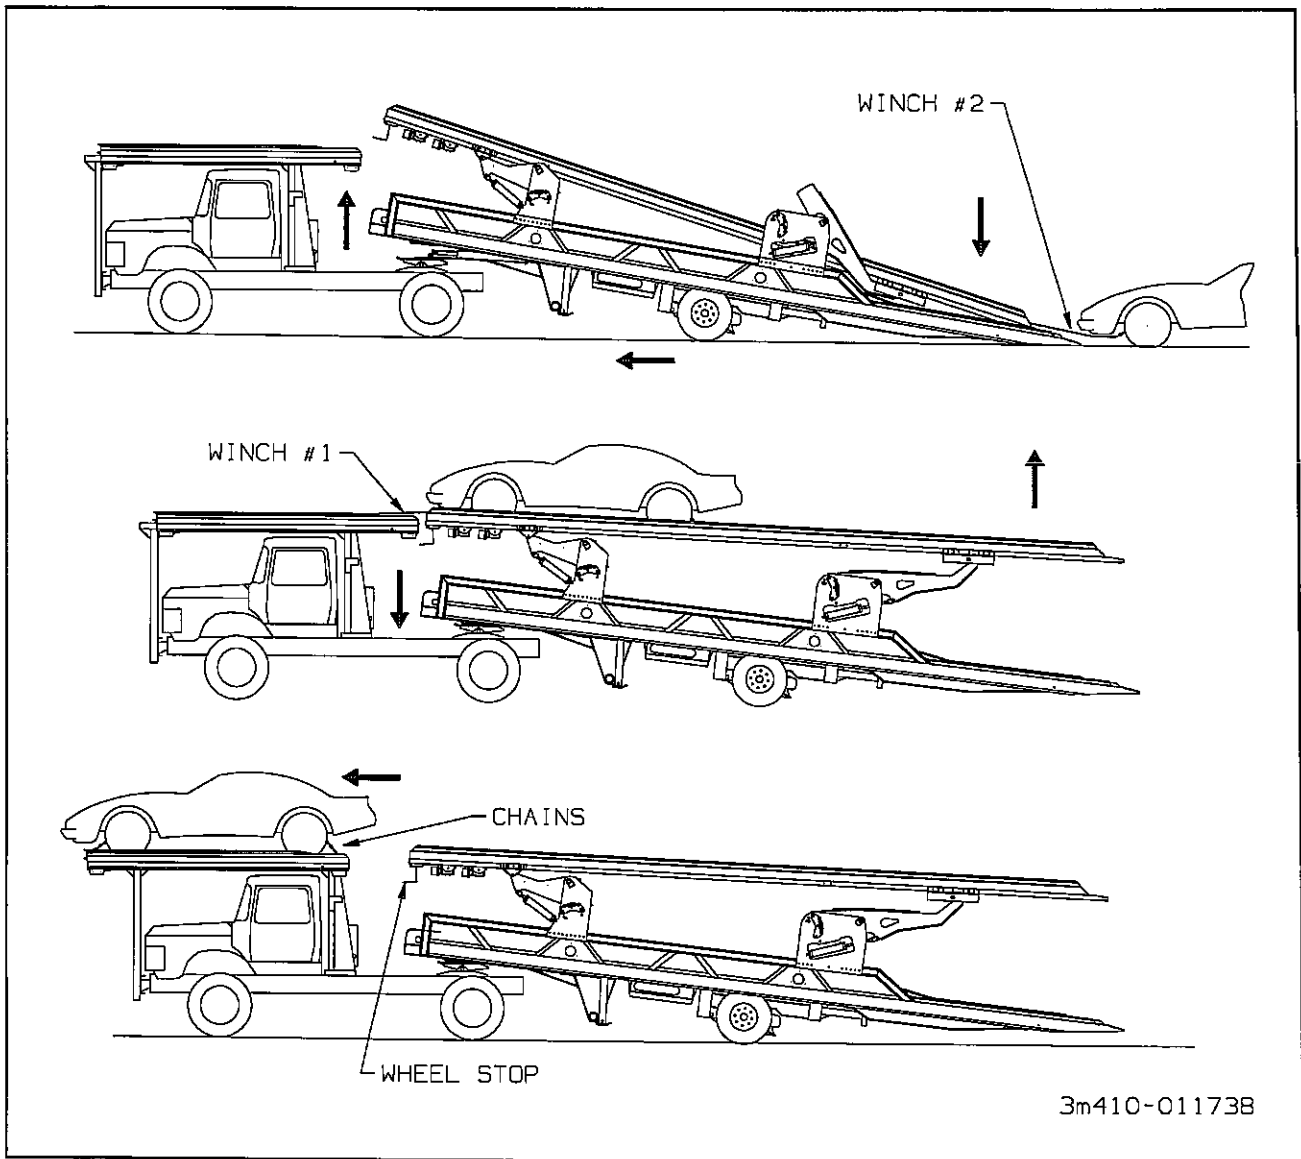

Figure 3-8 Loading the Over-the-Cab Deck
e. Unlock and lower the rear arm until the back edge of the upper deck touches the lower deck. (See Figure 3-8.)
f. Make sure the trailer axles are all the way forward. Tilt the trailer with the **TRAILER TILT** control, until the approach plate of the lower deck touches the ground. (See Figure 3-8.)